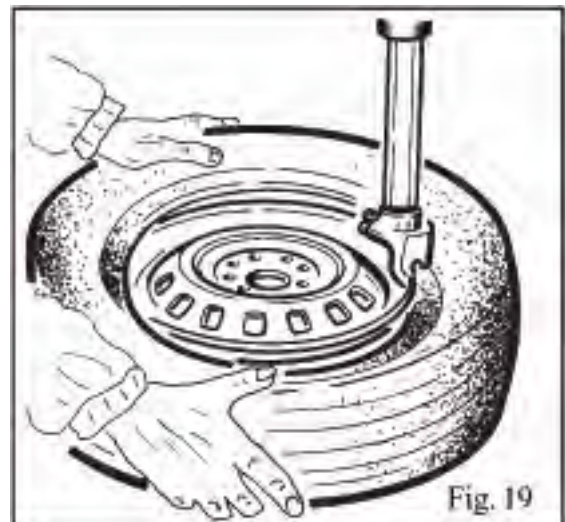

Fig. 19
**When working with rims of the same size it is not necessary always to lock and unlock the mounting bar; you only need to tilt and return the ram (P) with the arm and the bar locked in their working positions.**
- Keeping the tire bead pressed down into the wheel rim channel with your hands, press down on the pedal (Z) to rotate the turntable clockwise. Continue until you have covered the entire circumference of the wheel rim (Fig. 19).